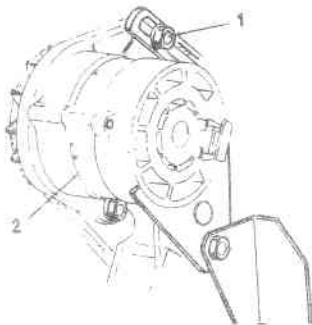

Fig. 13. Belt adjustment.
#### (2) Belt adjustment (Fig 13)